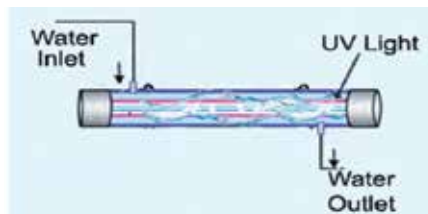

Figure 1. Bulb is with the grain of water, allowing more surface area to be disinfected. All images courtesy of CRWA.
Ultraviolet (UV) disinfection is a real big interest of mine now that I have seen it in action, and I can see it being the future of wastewater disinfection. Ultraviolet disinfection could beat out chlorination as the main form of disinfection because it has many positive aspects. One thing I like is that it is much safer compared to chlorination. It is safer for both the operators and the environment (see Fig.1).